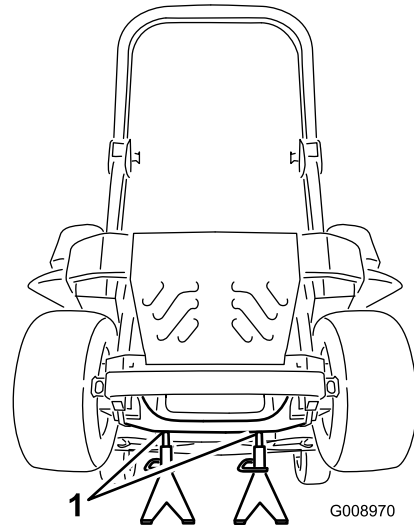

Figure 92
3. Raise the machine and support it with jack stands (Figure 92).